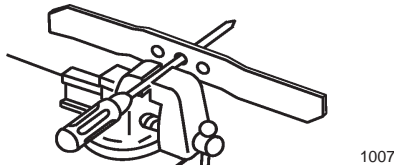

Figure 17
1. Check the balance of the blade by placing the center hole of the blade over a nail or screwdriver shank clamped horizontally in a vise (Fig. 17).